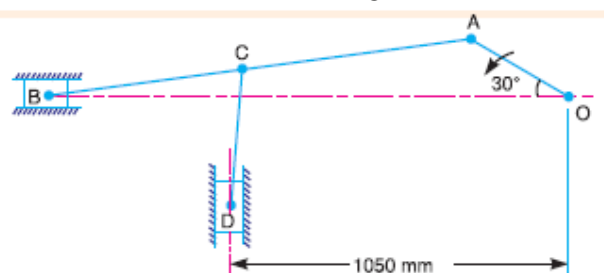

Figure 2.2
- (b) In the mechanism, as shown in Fig. 2.2, the crank OA rotates at 20 rpm anticlockwise and gives motion to the sliding blocks B and D. The dimensions of the various links are $OA = 300 \text{ mm}$; $AB = 1200 \text{ mm}$; $BC = 450 \text{ mm}$ and $CD = 450 \text{ mm}$. For the given configuration, determine: 1. velocities of sliding at B and D, 2. Angular velocity of CD, 3. linear acceleration of D, and 4. angular acceleration of CD. **07**